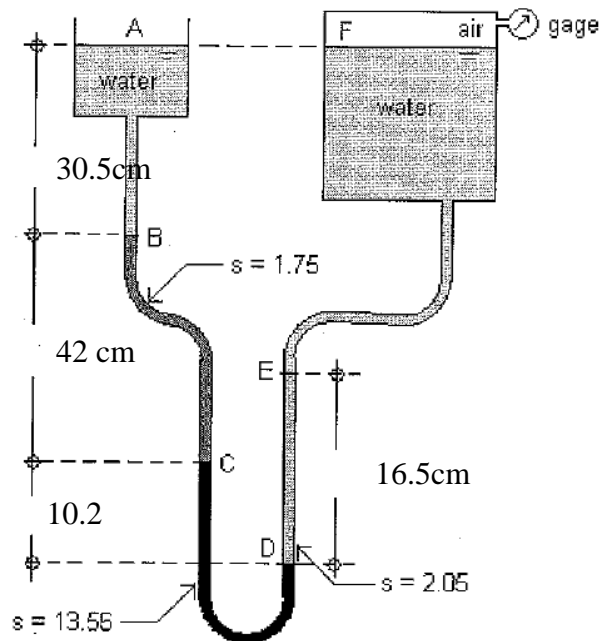

Figure 3: Open Tank / Rajah 3: Tangki Terbuka
- [c] The Figure 3 below shows an open tank (A) connected to a pressurized tank (F) by the tube through points B, C, D, and E. The figure shows the lengths and specific gravities of different manometric fluids used in the tube. Calculate the pressure measured by the gage at F, P_F in kPa , if the levels of tanks A and F are the same. Use $\gamma_{\text{water}} = 9810 \text{ N/m}^3$ for the specific weight of water.